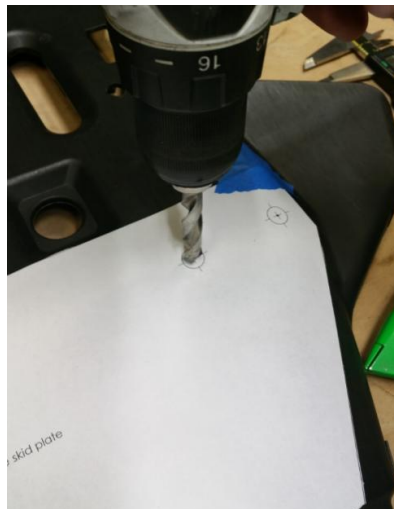

Figure 5
3. Drill the four (4) rear holes as shown in Figure 5 and remove the template from the skid plate.